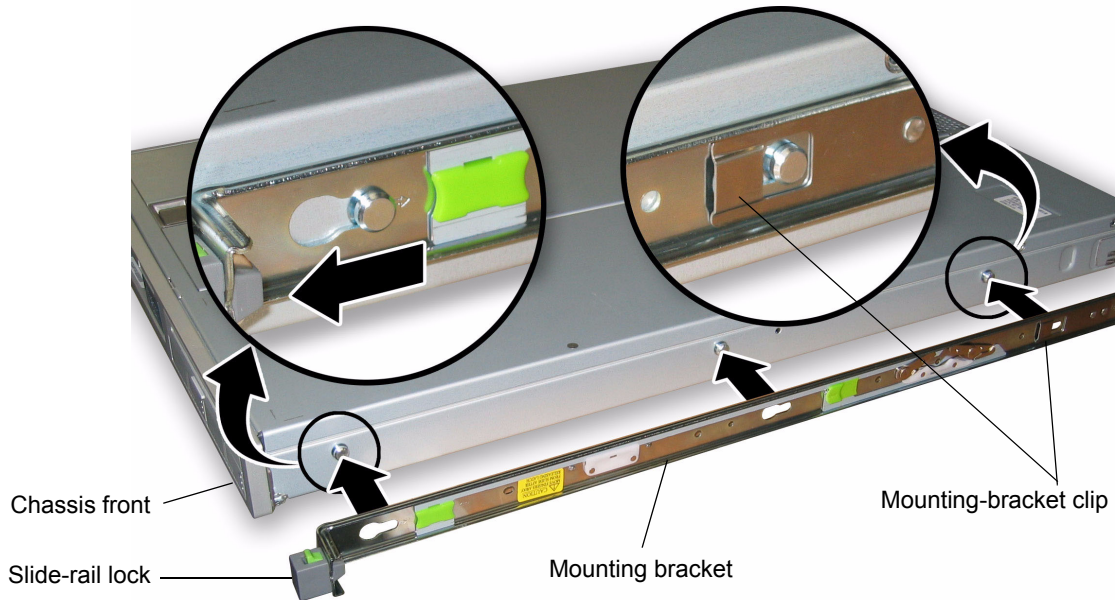

FIGURE 1-2 Aligning the Mounting Bracket With the Server Chassis
1. Position a mounting bracket against the chassis so that the slide-rail lock is at the server front, and the three keyed openings on the mounting bracket are aligned with the three locating pins on the side of the chassis. See FIGURE 1-2.
2. With the heads of the three chassis locating pins protruding through the three keyed openings in the mounting bracket, pull the mounting bracket toward the front of the chassis until the mounting-bracket clip locks into place with an audible click. See FIGURE 1-2.
3. Verify that all three locating pins are trapped in the keyed openings and that the rear locating pin has engaged the mounting-bracket clip. See FIGURE 1-2.